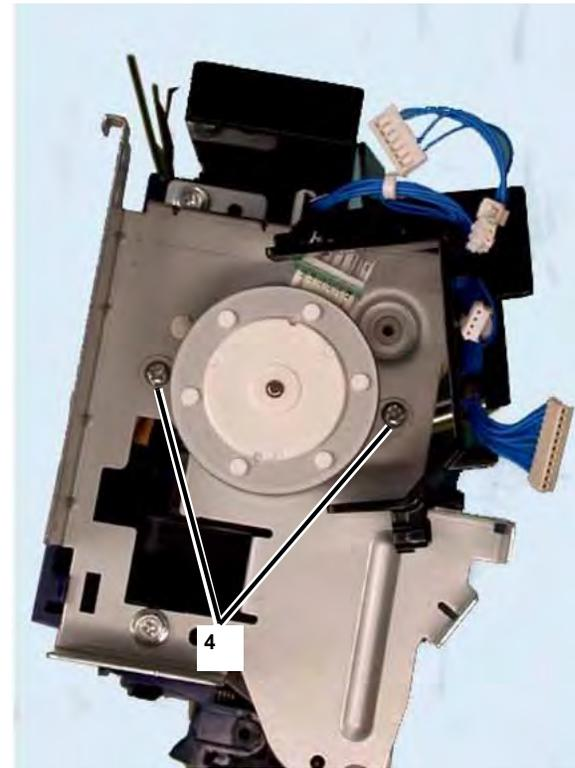

Figure 2 Removing Screws
4. Remove the Screws (2) and the Exit 2 Motor (Figure 2).